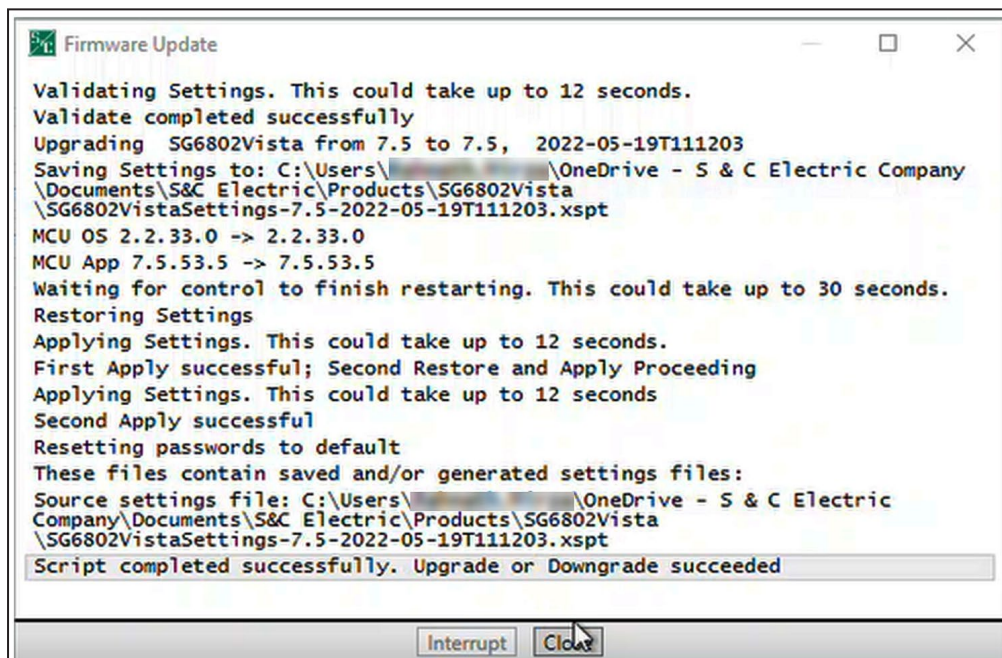

Figure 25. The Script completed successfully notice.
STEP 13. When “Script completed successfully” is indicated in the Firmware Update dialog box, click on the **Close** button. See Figure 25.